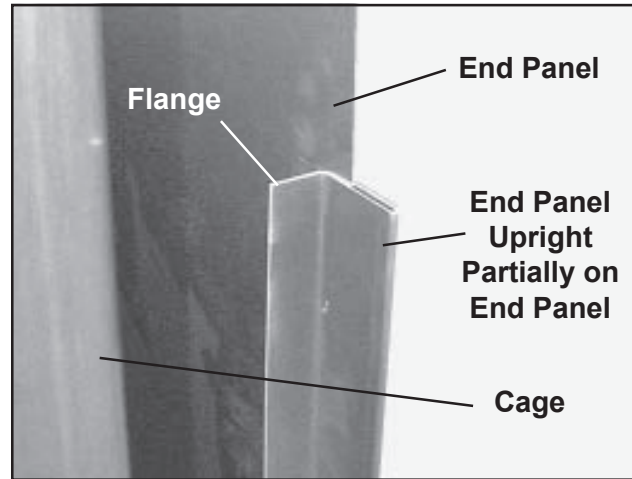

Figure 43. End Panel Upright being Mounted on End Panels
2. Slide the slot of the end panel upright onto the rear edges of the end panels. The flange of the upright should point toward the cages (Figure 43).